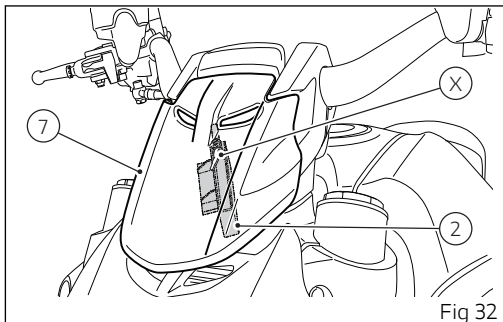

Fig 32
The active key (3) with flat battery and the passive key (4) have a range of action of a few inches (cm), therefore it is necessary to position one of the two keys very close and in correspondence of the symbol (X) of the hands free key on the headlight fairing (7); this symbol, on the headlight fairing (7), above the headlight at the front of the bike, indicates the presence of antenna (2, Fig 32) under the headlight fairing (7).